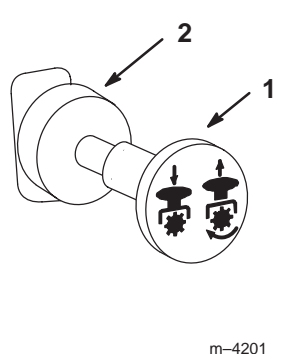

Figure 14
3. Move the PTO (power take off) to the *off* position (Fig. 14).